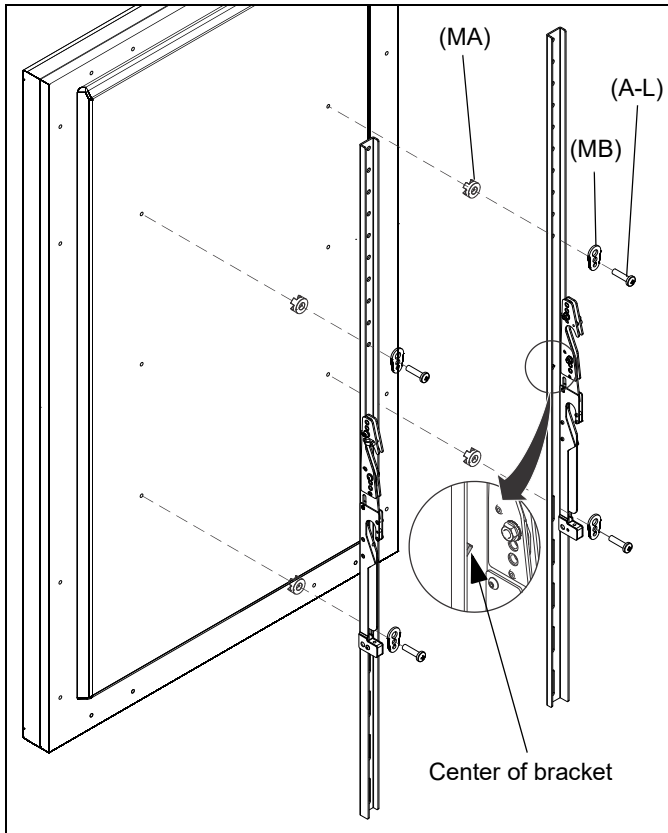

Figure 5
1. Align the center of the bracket (V and W) with center of screen. (See Figure 5)
2. Select correct screws, nesting spacers (if necessary) and universal washers from the hardware bag (A-L) and attach brackets to back of screen. (See Figure 5)